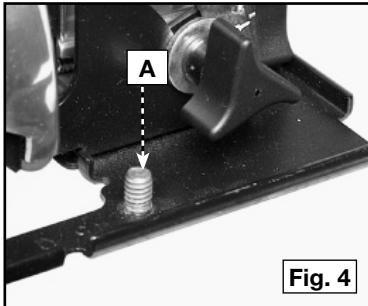

Fig. 4
Adjust the saw for the minimum depth-of-cut. Place the slot of the insert around the stud (A) Fig. 4 on the front of the saw base. Install a flat washer and thumb nut to the stud loosely. Adjust the saw for the desired depth of cut, and align the insert so that the saw blade is centered in the slot in the insert. Tighten the thumb nut firmly.